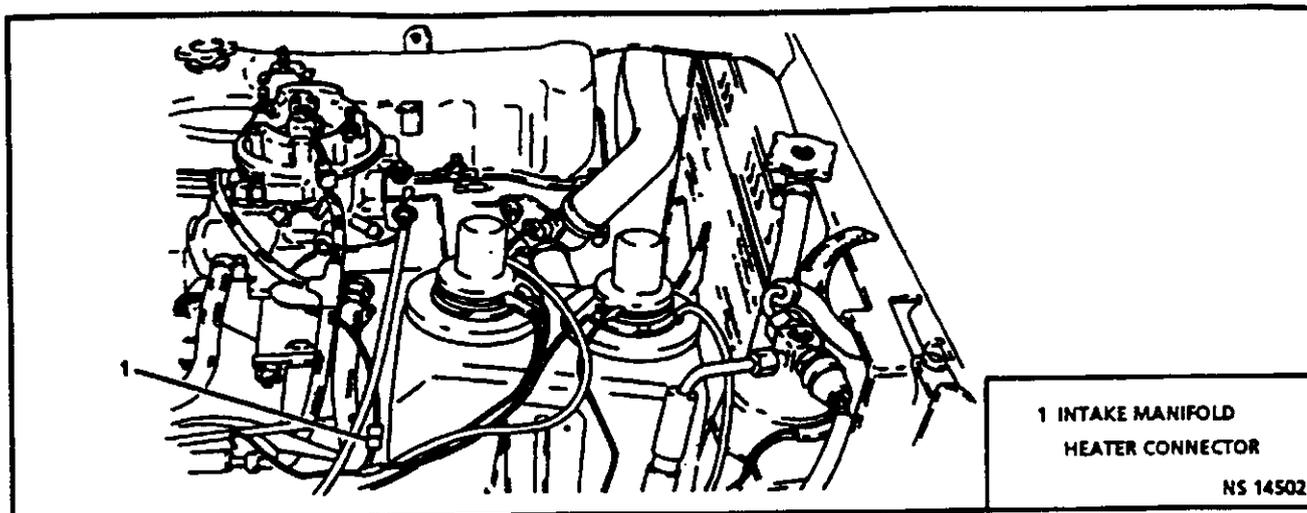
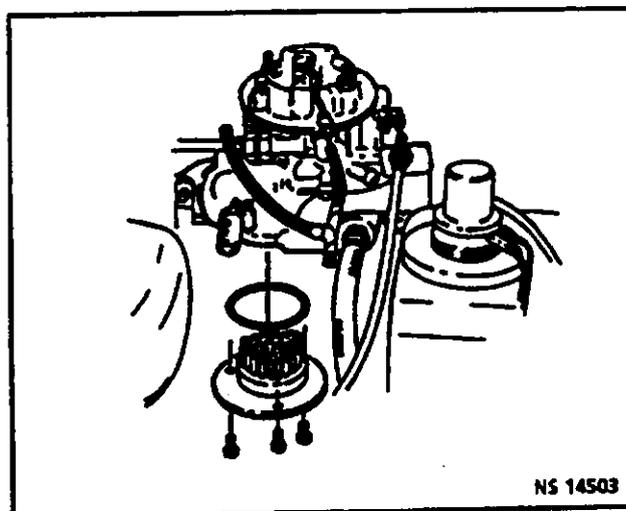

Figure 3.9-1 Intake Manifold Heater Connector
Figure 3.9-2 Intake Manifold Heater Removal
INTAKE MANIFOLD HEATER ASSEMBLY *Figures 3.9-1 and 3.9-2*
2. Intake manifold heater connector (Figure 3.9-1).
3. (3) manifold heater to intake manifold connecting bolts.
4. Intake manifold heater and gasket from underside of intake manifold (Figure 3.9-2).